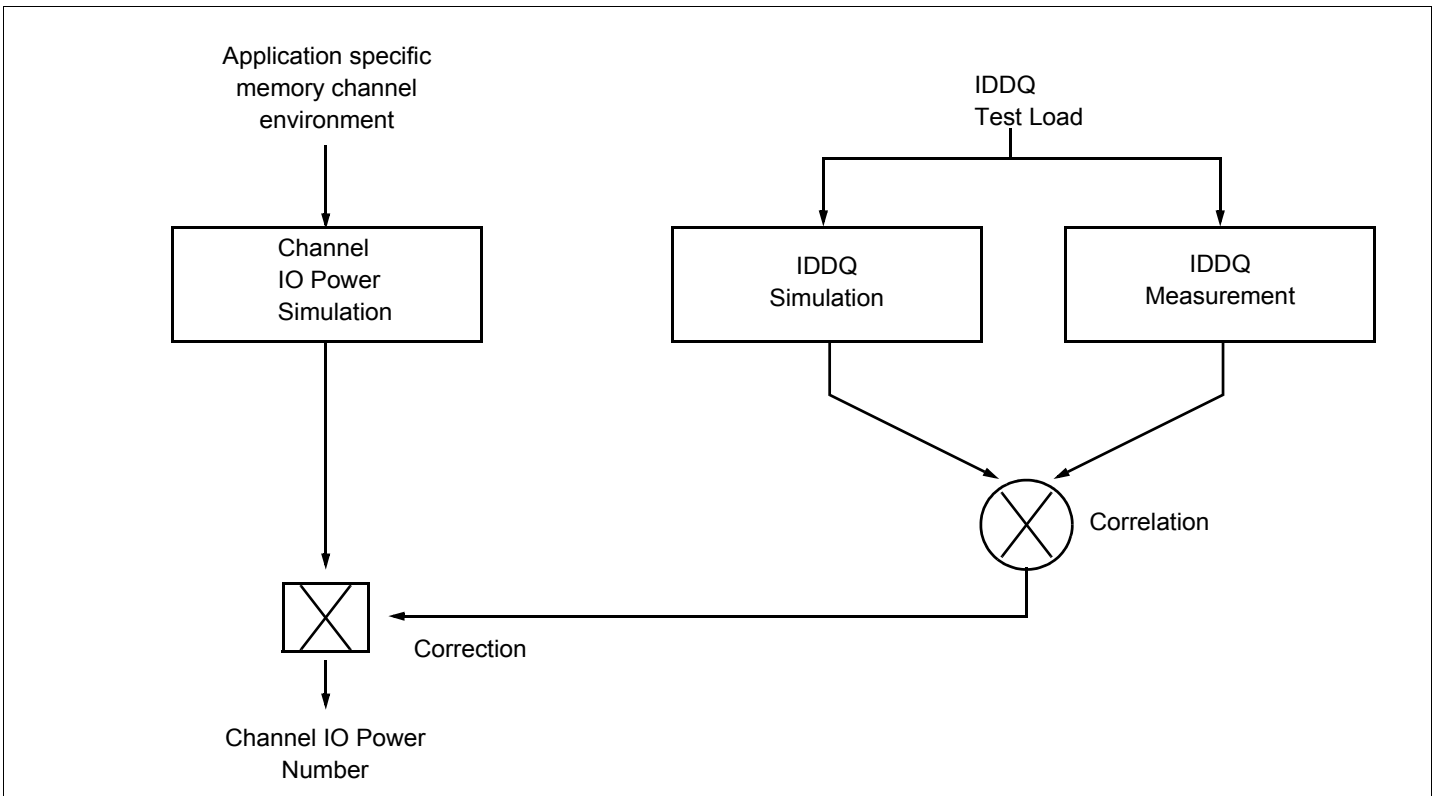

Figure 20. Correlation from simulated Channel IO Power to actual Channel IO Power supported by IDDQ Measurement.
**Attention** : IDDQ values cannot be directly used to calculate IO power of the DDR3 SDRAM. They can be used to support correlation of simulated IO power to actual IO power as outlined in Figure 20. In DRAM module application, IDDQ cannot be measured separately since VDD and VDDQ are using one merged-power layer in Module PCB.